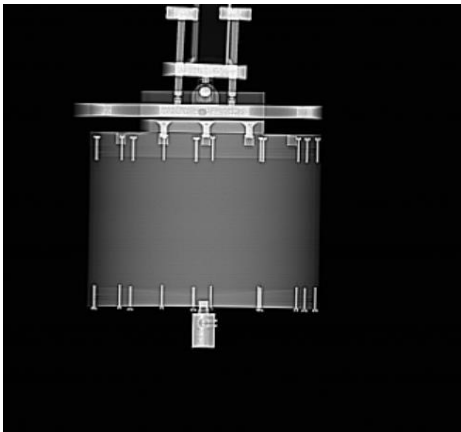

Figure 3: the AP scout of a 20 cm water phantom and the estimated radius based on the scout.
3. For each planned slice, the system calculates the WED and assigns a specific mA value to that location. Figure 3 shows the WED of the equivalent water phantoms as calculated based on the scout image (left). The estimated diameters (right) show that the water portion of the phantom matches the true diameter of the phantom.